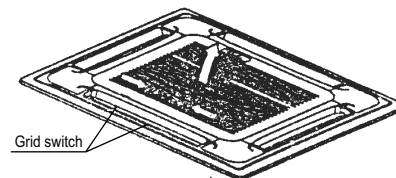

Fig.21
- a. Slide two grid switches toward the middle at the same time, and then pull them up. (Refer to Fig.21)